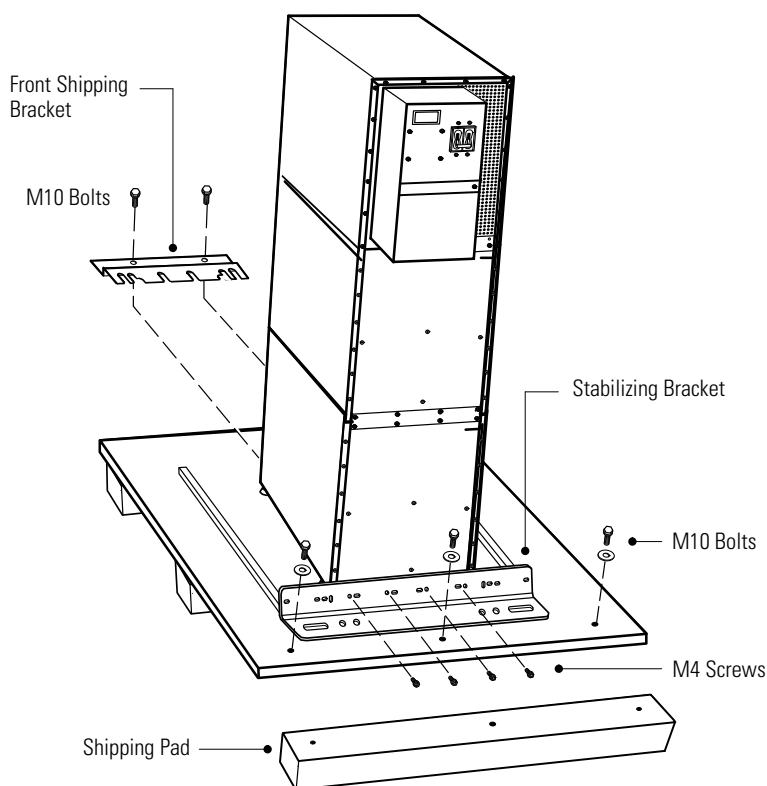

Figure 3. Removing the Brackets and Shipping Pad
2. Remove the four M4 screws securing the stabilizing bracket to the cabinet rear panel and remove the bracket (see Figure 3). Retain the hardware for later use.
4. Remove the three M10 bolts securing the rear shipping pad to the pallet and remove the shipping pad (see Figure 3).
5. Remove the two M10 bolts securing the front shipping bracket and remove the bracket (see Figure 3).